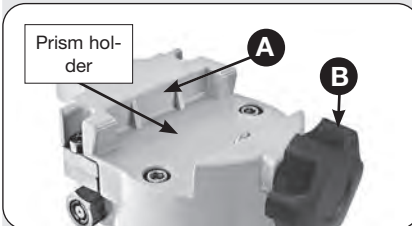

Fig. 7: Prism holder on the shaft of the mount
7. Attaching the prism rail to the mount (bracket): Remove the tube from the tube clamp and slide the tube clamps connected with the prism rail (11, Fig. 1a) into the prism holder (see Fig. 7). The dovetail base of the rail fits into the prism holder of the mount (A, Fig. 7). Tighten the prism locking screw (B, Fig. 7) good on. Insert the tube into the clamps and hand-tighten the tube clamping screws.